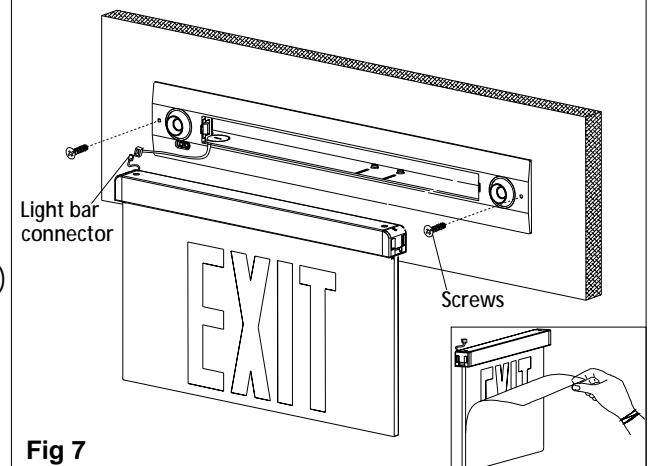

Fig 7
7. Assembly trim plate back use M3*15mm screws.(see Fig 7 or 8)
9. Peel off protection film from EXIT panel, Connect light bar connector, assembly panel module to trim plate, adjust position of lamp heads as need.(see Fig 7 or 8)